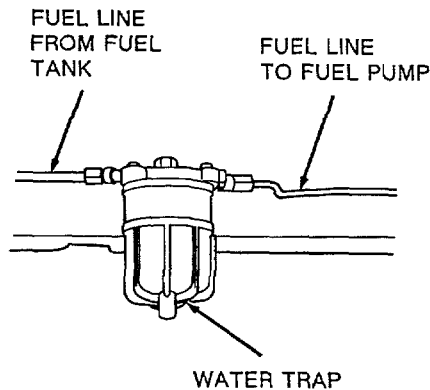

Figure 4-11-Water Trap
- (5) Tag and disconnect necessary wires.
- (6) Disconnect fuel return line from no. 1 injector nozzle and fuel tank. Disconnect the fuel line from the water trap and the fuel pump (see Figure 4-11). Stop fuel flow from water trap.
- (8) Connect fuel return line to no. 1 injector nozzle and fuel tank.
- (9) Connect the fuel line to the water trap and the fuel pump (see figure 4-11).